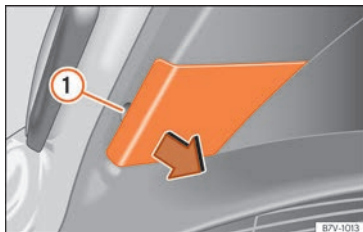

**Fig. 68** On the rear lid: remove the cover.
- Extract the cover carefully using the flat part of the screwdriver from the vehicle tool kit as a lever (» **page 41**) on the indent » **Fig. 68** ①.